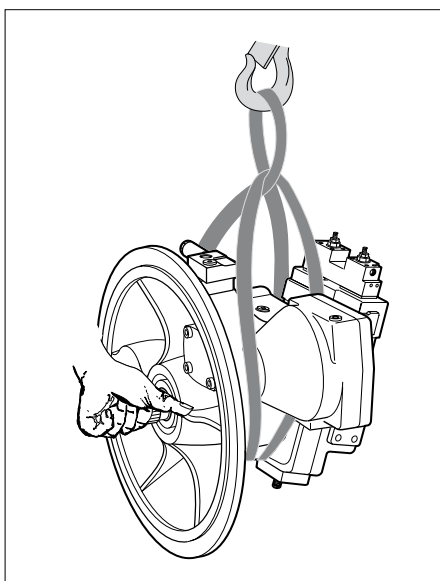

Fig. 7: Transport with lifting strap
- ▶ Place the lifting strap around the axial piston unit in such a way that it passes over neither the attachment parts (e.g. valves) nor such that the axial piston unit is hung from attachment parts (see Fig. 7).